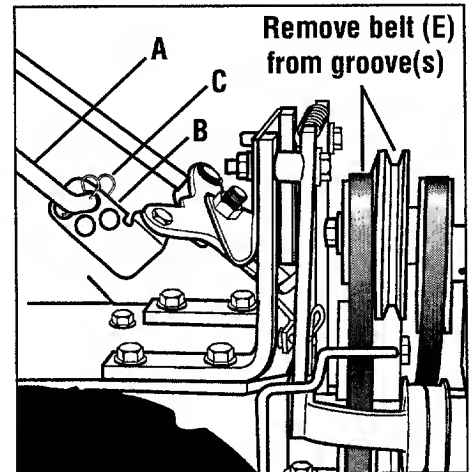

Figure 5-9: Disconnect Forward Clutch Rod and move forward drive belt out of groove(s) in engine forward drive pulley (Econo-Horse forward drive pulley shown).
2. Disconnect the Forward Clutch Rod (A, Figure 5-9) from the swivel plate (B) by removing the innermost hairpin cotter (C).
5. Slip the forward drive belt (E, Figure 5-9) out of the groove(s) in the engine driven forward drive pulley by pushing it off (away from the engine) with your left hand while pulling the engine starter rope with your right hand. NOTE: The Pony model has one groove in the forward drive pulley; the Econo-Horse model has two grooves.